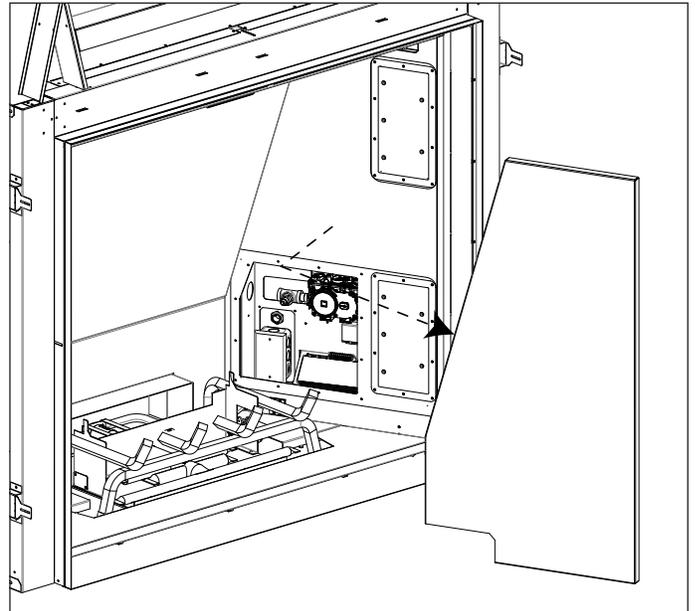

Figure 20: Right Liner Removal
5. Remove the right liner from the firebox. See Figure 20.